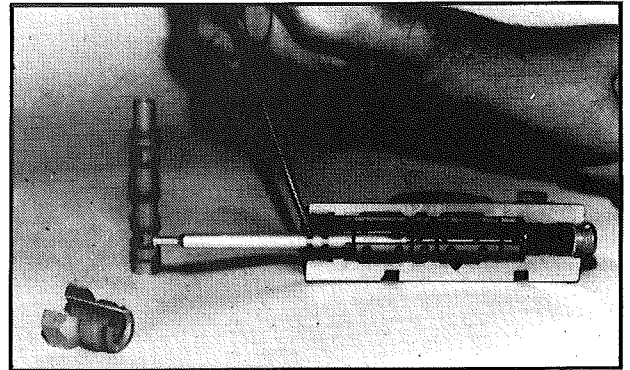

Figure 1. Insert tool in second row of holes in sleeve and if necessary, pry out with screwdriver.
2. If necessary, remove sleeve and bumper (rubber faced spacer at inside end of sleeve) with tool P/N 28584 as shown in figures 1, 2, and 3.